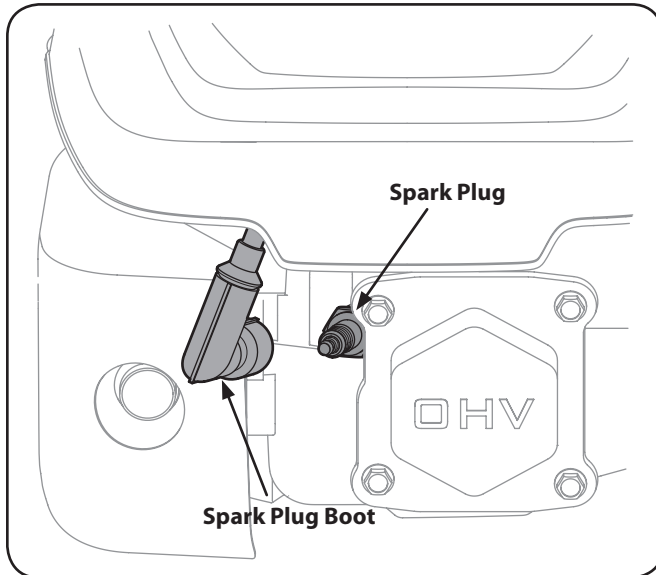

Figure 6-5
1. Remove the spark plug boot and use a spark plug wrench to remove the plug. See Figure 6-5.